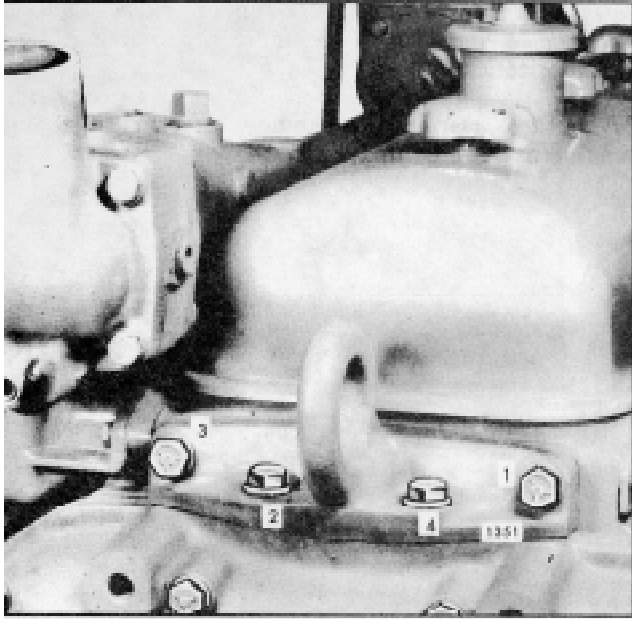

Fig. 16 - Lifter Bracket Bolt Tightening Sequence
9. Tighten the two flywheel housing attaching bolts directly below the rear lifter bracket. Install a new gasket and secure the rear engine lifter bracket to the cylinder head and the flywheel housing. Tighten the bolts to 55-60 lb-ft (75-81 Nm) torque when threaded into cast iron or 35-40 lb-ft (47-54 Nm) torque when threaded into aluminum (Fig. 16).